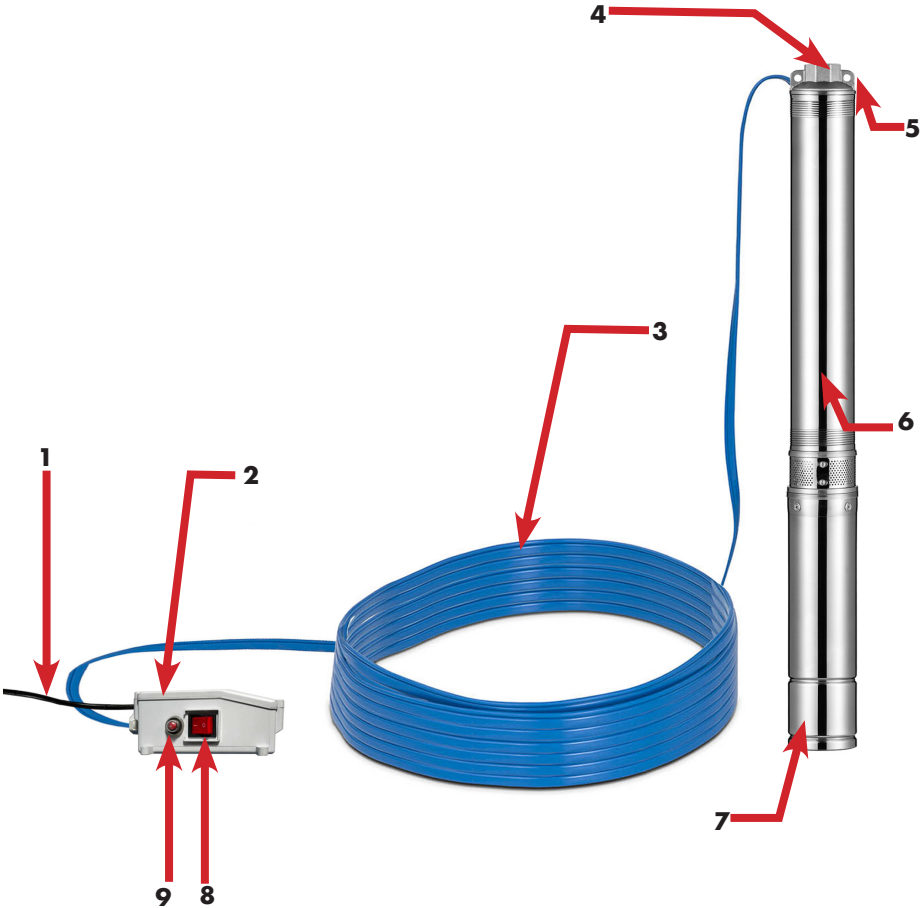

Fig. 1
Figure 1 shows the system with its functions and controls.
Legend Figure 1
- Connect all cables in , the terminals provided. See also figure 1, page 10.